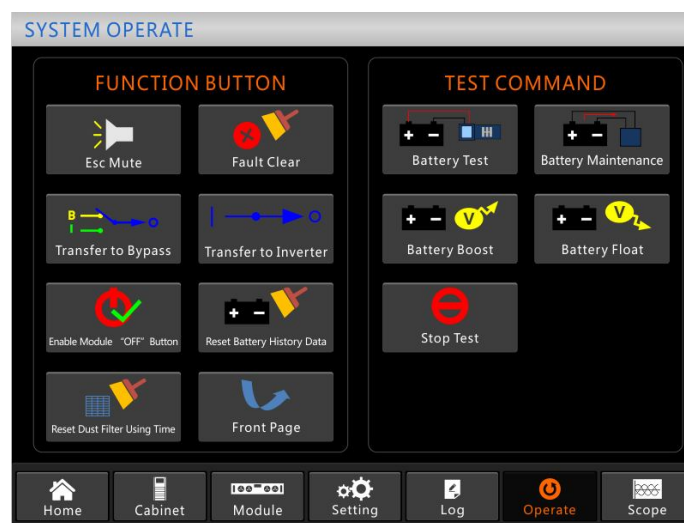

Figure 4-3 Battery maintenance
1) Manual discharging test. Enter the “Operate” menu, as is shown in Figure 4-3 and touch the